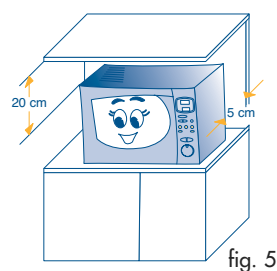

fig. 5
- 1) After removing the oven from the box, remove the protective packaging containing the turntable (I) and its support (L) and all the accessories. Check that the turntable spindle (D) is inserted correctly in the special slot in the centre of the turntable.
- 5) **When positioning the appliance on the worktop, make sure that there a gap of approx. 5 cm between the surfaces of the appliance and the rear and side walls, and a gap of at least 20 cm above the oven (fig. 5).**